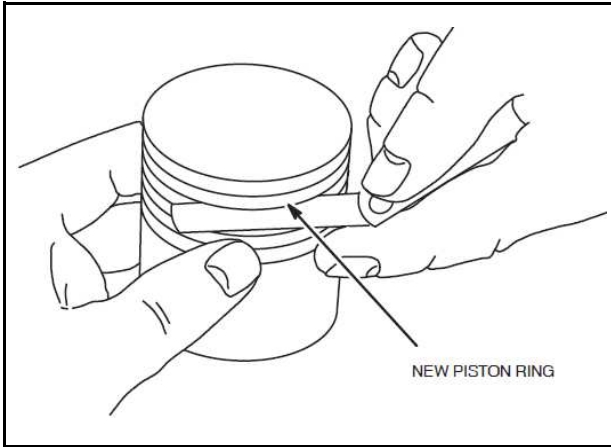

Fig. 3 - Checking Ring Grooves
1. Check side clearance of ring grooves using NEW rings, Fig. 3. If a 0.11 mm feeler gauge can be inserted, the ring groove is worn. The piston must be replaced.